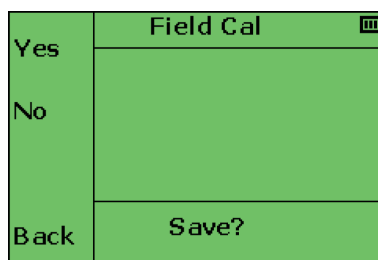

Figure 90: Field Calibration Save
- Save screen will appear (as shown in Figure 90: Field Calibration Save).